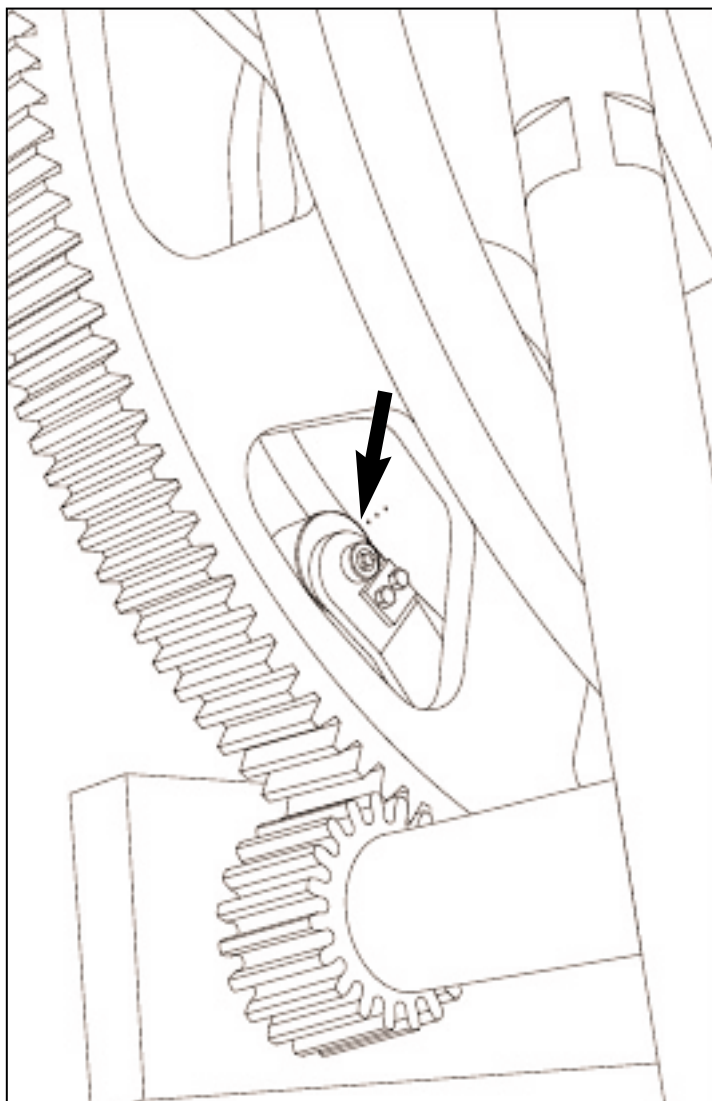

Figure 6.6 PALLET RAISING CAM.
- 6.2.1 Run machine to align punch marks on pallet raising cam (innermost cam on left side of machine) with center of roller that contacts it (see figure 6.6).